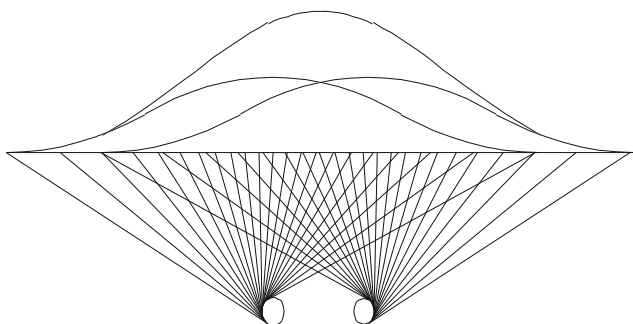

Fig.10 Twin Overlapping Rotors
Variations between the spreading characteristics of one fertiliser and those of another will affect the spread pattern of a single rotor. The result will be a sideways shift in the peak. Since the two rotors rotate in opposite directions however, the amounts spread to either side will be identical and, with overlap, the overall spread pattern will remain symmetrical. Fig.10 shows this concept.
4. Choose the axis along the bottom of the graph which corresponds with the chosen bout width and draw a vertical line at 150Kg/acre (371 kg/ Hectare) until it intersects the horizontal line at 5 mph (8 kph)., as shown in Fig. 10.